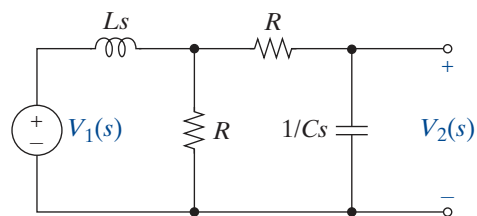

FIGURE P11-9
- 11-9 Find the voltage transfer function $T_V(s) = V_2(s)/V_1(s)$ in Figure P11-9.